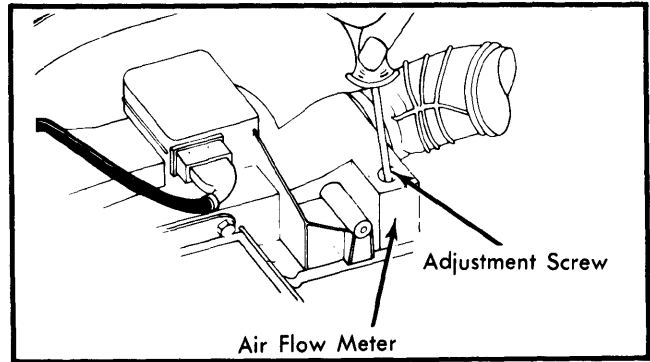

Fig. 5 Fuel Injection Mixture Adjustment
3) Connect CO meter to pipe tap in front of catalytic converter. Disconnect plug from oxygen sensor and ensure that neither side is grounded. Remove plug from airflow meter and adjust CO to 0.5-0.9%. See Fig. 5.
4) Ground control unit side of oxygen sensor connector. CO level should rise to at least 1.5%. Reconnect oxygen sensor and check for CO level of 0.3-0.6%. Remove test equipment and plug air flow meter screw. See Fig. 5.